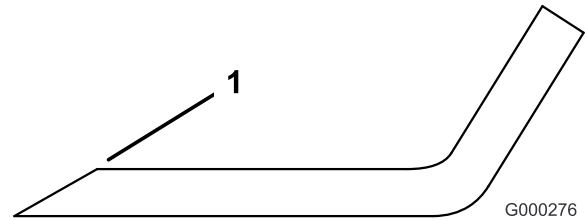

Figure 88
3. Examine the cutting edges of all of the blades. Sharpen the cutting edges if they are dull or nicked. Sharpen only the top of the cutting edge and maintain the original cutting angle to make sure of sharpness (Figure 88). The blade will remain balanced if the same amount of metal is removed from both cutting edges.